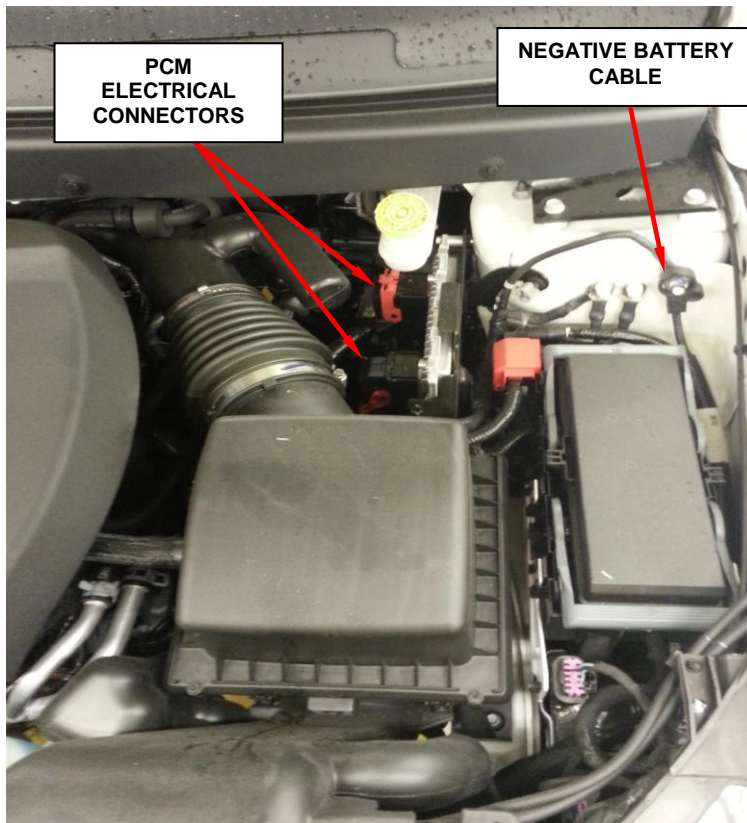

Figure 23 – Negative Battery Cable
1. Disconnect and isolate the negative battery cable (Figure 23).
2. Unlock and disconnect the two electrical connectors at the PCM (Figure 23).